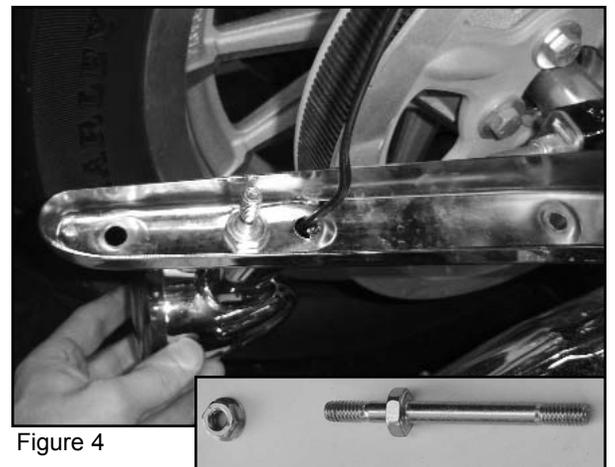

Figure 4
5. Remove turn signal bolt from cover (**5/8" Deep Well Socket**). **Figure 4**